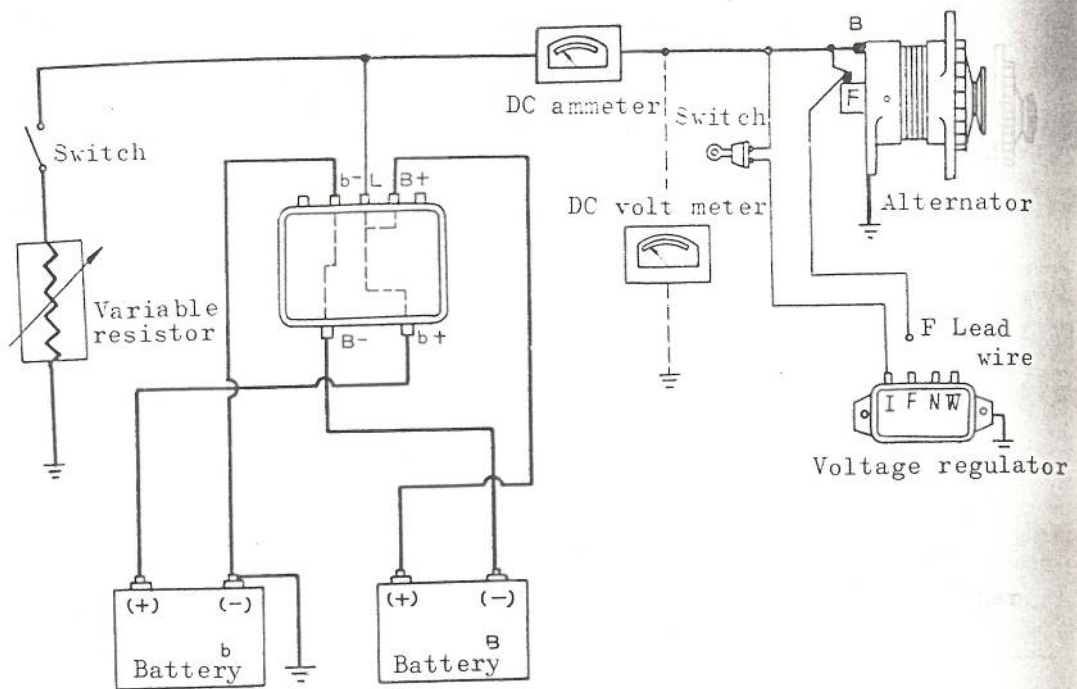

Fig. 10-120
- 6) For models PR-D10, connect the variable resistor into position as illustrated in Fig. 10-120 and test the charging circuit for failure.